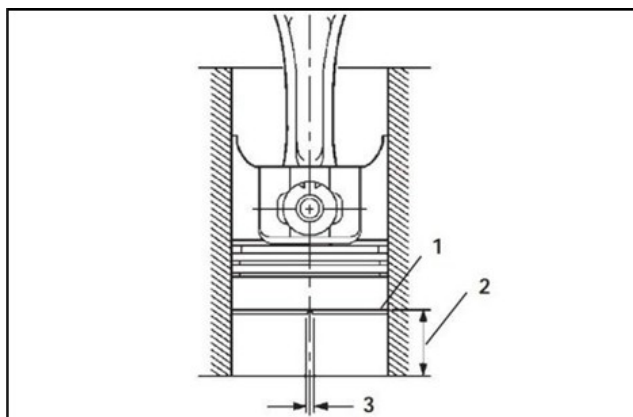

Figure 123.
9. To measure piston ring end gap, insert each compression piston ring (Figure 123, item 1), one at a time, into the cylinder. Use a piston with the piston rings removed to slide the ring into the cylinder bore until it is approximately 1.18 in. (30 mm) (Figure 123, item 2) from the bottom of the bore. Remove the piston. Measure the end gap (Figure 123, item 3) of each piston ring. Record the measurements. See Piston Ring mechanical specifications chart.